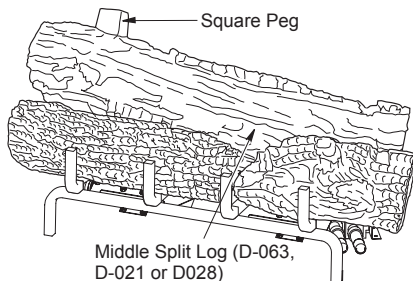

Figure 32 - Installing Middle Split Log (D-021)
5. Find the middle split log (LMF36-SC and VFGT24 inch models: D-063 or LMF42-SC and VFGT30 inch models: D-021 or LMF48-SC and VTGF36 inch models: D-028). See Figures 32 and 32A. The split side of the log faces forward. The log has a notch that fits around the burner tube on the right side. The left side of the burner tube fits into the notch on the back side of this log. The log is placed properly when it sits parallel to the tube burner and the square peg is pointing up. See figures for reference.